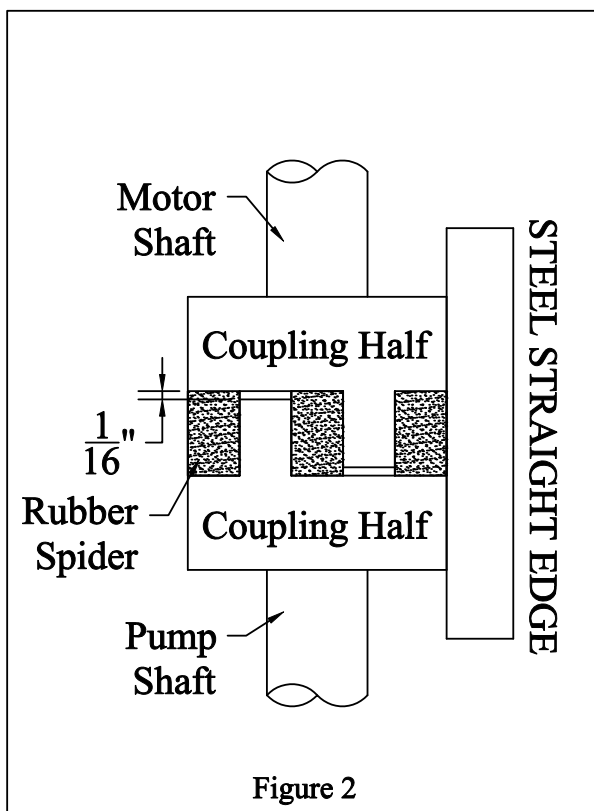

Figure 2
4. Check for angular and parallel coupling alignment at 2 points, 90° apart as shown in Figure 2. If misalignment occurs, reposition motor as required.